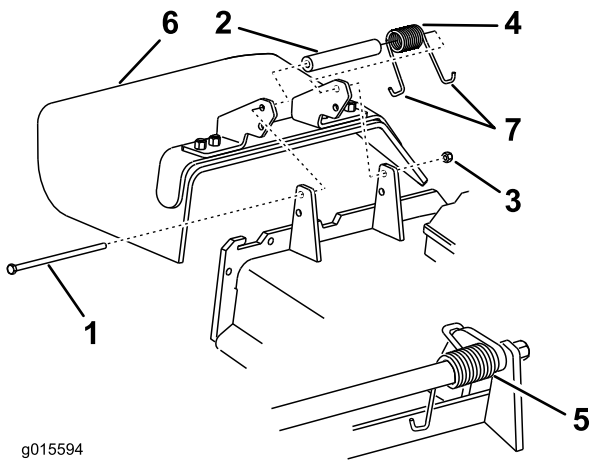

Figure 102
1. Remove the locknut, bolt, spring and spacer holding the deflector to the pivot brackets (Figure 102). Remove the damaged or worn grass deflector.
Note: Make sure one **J** end of the spring is installed behind the deck edge before installing the bolt as shown in Figure 102.
3. Install the bolt and nut. Place one **J** hook end of the spring around the grass deflector (Figure 102).